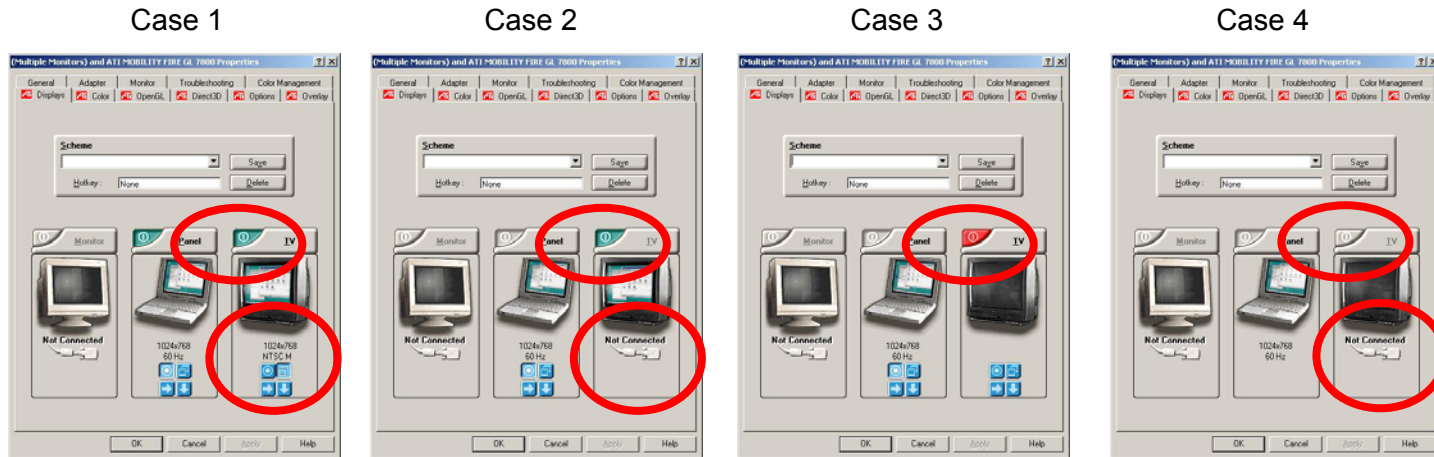

Figure 21-1.- Multiple monitors and ATI mobility fire GL 7800 display tab.
6. √'Displays' tab against fig 21-1 cases' circled areas and perform matching case steps below:
Click Green tab. Tab automatically turns red after selection (see fig 21-1)